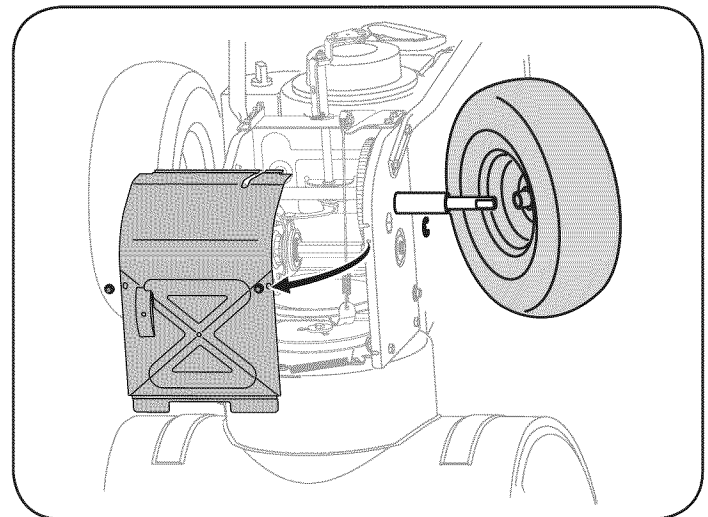

Figure 31
5. Remove the right-hand wheel by removing the screw and bell washer which secure it to the axle. See Figure 31.